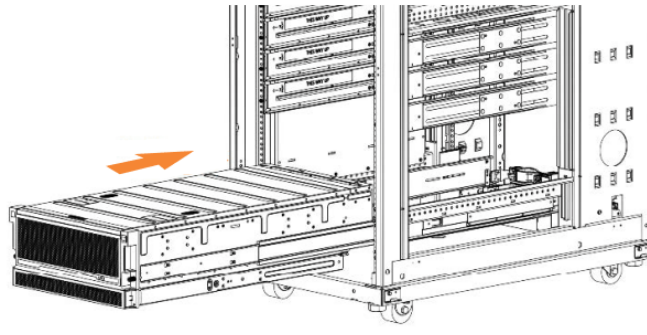

Figure 55. Example installation of the enclosure in the rack
- Install the expansion enclosure in the lowest position in the rack. Figure 55 on page 87 shows an example.